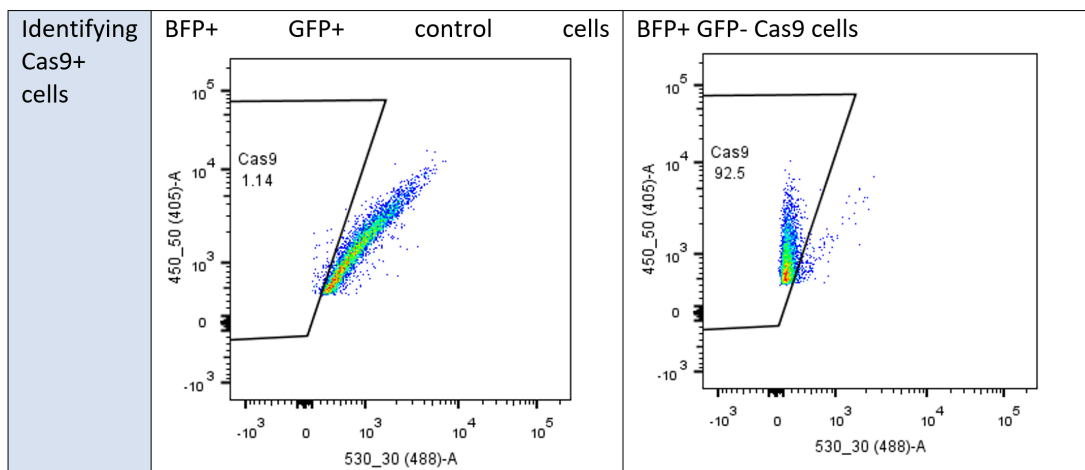

Figure 4. Identifying Cas9 positive cells
- 17.1 Using the control cells, double-click on the BFP+ gate population and change the plot axis to BFP vs GFP as shown in Figure 4, left panel. Gate the region of BFP+ cells that are not GFP+. Name this gate Cas9.